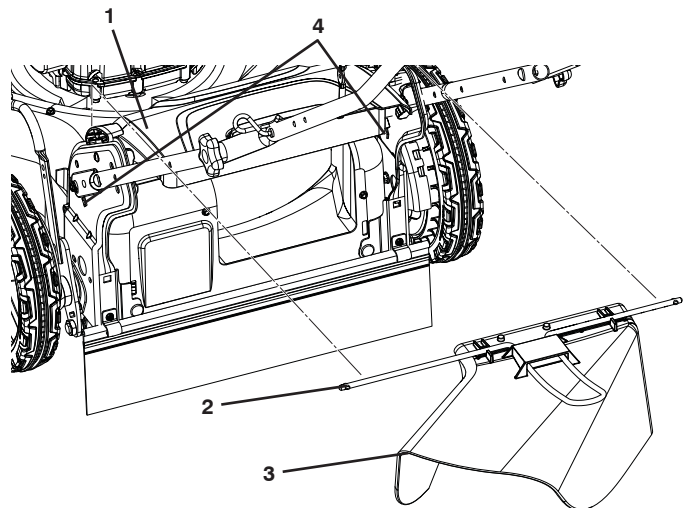

Figure 12
1. Lift the rear door and install the clipping deflector (available accessory) legs into holes of handle brackets as shown (Figure 12).